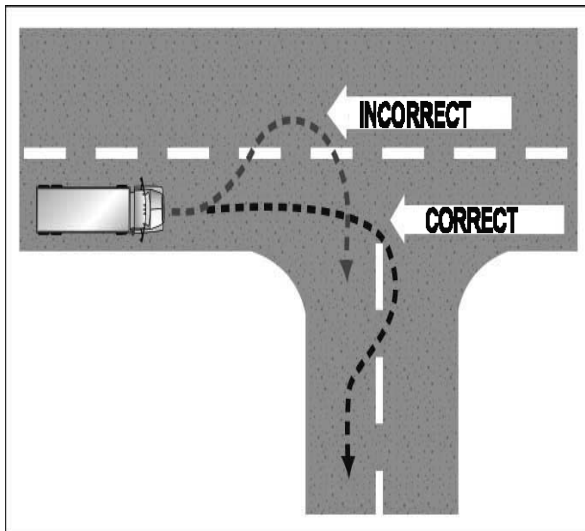

Figure 2.13
- If you must cross into the oncoming lane to make a turn, watch out for vehicles coming toward you. Give them room to go by or to stop. However, do not back up for them, because you might hit someone behind you. See Figure 2.13.